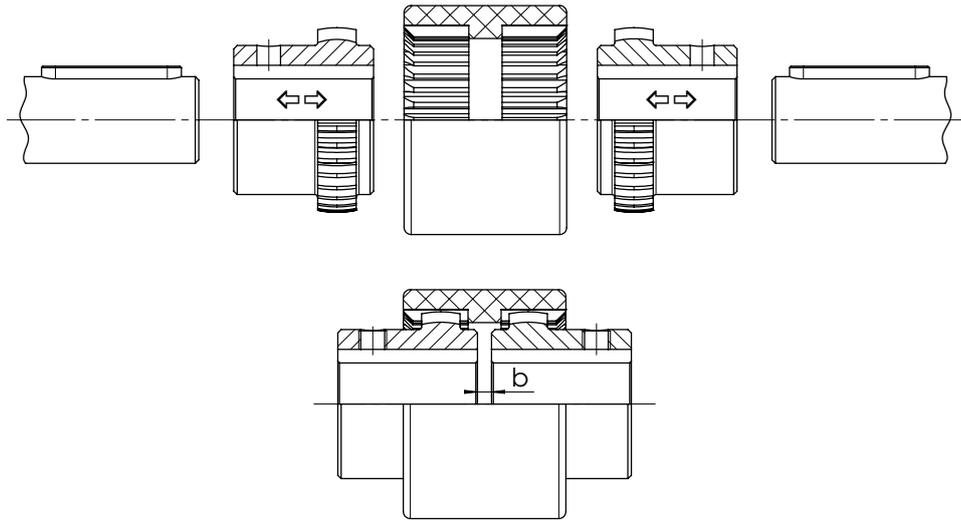

Figure 4-2 - SITEX®: mounting
- Install the hubs on the driving and driven shafts (FIGURE 4-2)
- Move the motor and the driven equipment up to get the dimension **b** (FIGURE 4-2 e TABLE 4.1)